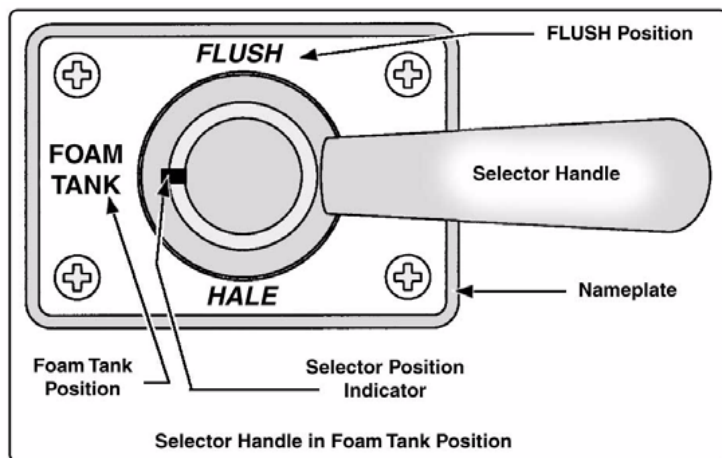

Figure 75: Hale MST Selector Operation
**Note:** Approved Class “A” foam concentrates do not deteriorate rapidly like Class “B” concentrates. As long as an approved Class “A” foam concentrate is used and the system is operated within 10-12 weeks no flushing is required. When Class “B” foam concentrate is used, always FLUSH the system, then switch back to Class “A” (Figure 70 and Figure 75).
**Note:** When the Hale ADT, MDTII or MST is in the FLUSH position the Hale SmartFOAM foam injection system runs for about twenty (20) second.
3. Place the Hale ADT, MDT II or MST to the FLUSH position (Figure 75).